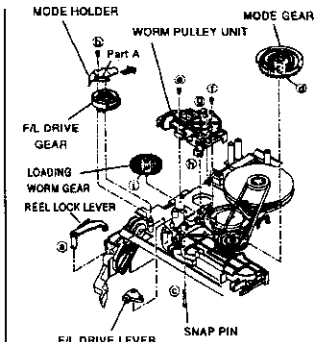

Fig. 2-17-1
- 1 Unfasten the catch (a) on the surface of the REEL LOCK LEVER shown in Fig. 2-17-1 with tweezers, etc. to remove the REEL LOCK LEVER.
- 2 Unscrew the MODE HOLDER fastening screw (b) shown in Fig. 2-17-1 to remove the MODE HOLDER.
- 3 Unfasten the catch (c) of the SNAP PIN shown in Fig. 2-17-1 with the tweezers, etc. to remove the SNAP PIN.
- 4 Unfasten the catch (d) on the surface of the MODE GEAR shown in Fig. 2-17-1 with tweezers, etc. to remove the MODE GEAR.
- 5 Remove the F/L DRIVE GEAR shown in Fig. 2-17-1 from the shaft of the MAIN PLATE ASSY.
- 6 Remove the F/L DRIVE LEVER shown in Fig. 2-17-1.
- 7 Unscrew the two WORM PULLEY UNIT fastening screws (e) and (f) shown in Fig. 2-17-1.
- 9 Unfasten the two catches (g) and (h) of the WORM PULLEY UNIT shown in Fig. 2-17-1 to remove the WORM PULLEY UNIT.
- 10 Unfasten the catch (i) on the surface of the LOADING WORM GEAR shown in Fig. 2-17-1 to remove the LOADING WORM GEAR.
- 2 Install the LOADING WORM GEAR shown in Fig. 2-17-1.
- 6 Install the F/L DRIVE LEVER shown in Fig. 2-17-1.
- 15 Push the SNAP PIN shown in Fig. 2-17-1 into the centre hole of the MODE GEAR from the surface to install it.
- 16 Move the MODE HOLDER shown in Fig. 2-17-1 in the direction shown by the arrow so that the part A of it is fixed to the shaft of the MAIN PLATE ASSY and install it.